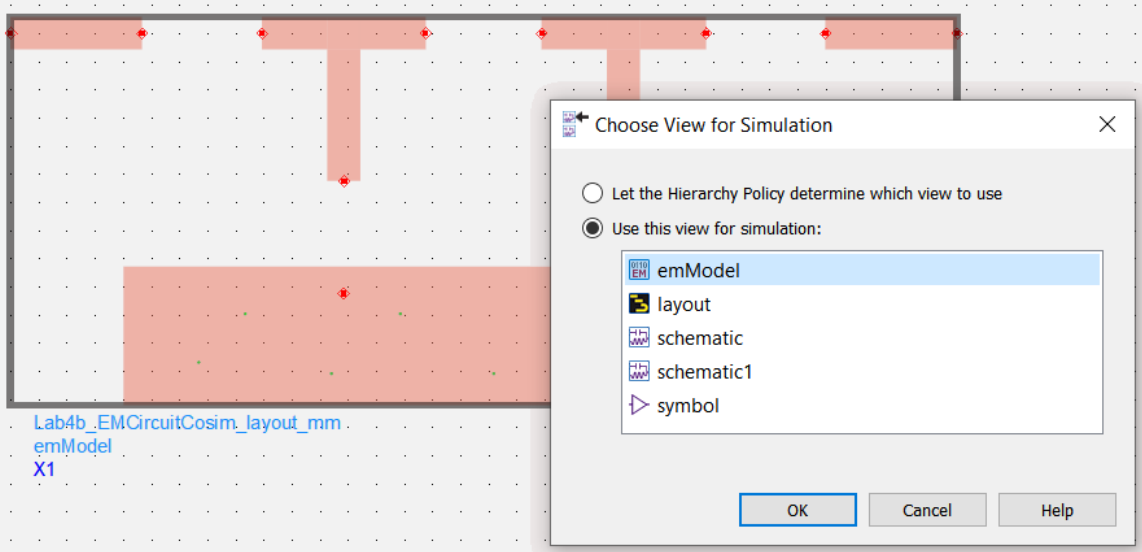

Figure 41. emModel shown in the new schematic
3. Open a new schematic cell, drag and drop the **emModel** from the Main Window on this schematic cell. From the tool bar, click **Choose view for simulation** and select **emModel** from the list as shown in Figure 41.